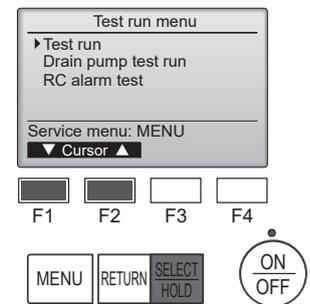

Fig. 7-2
- ② Select "Test run" from the Test run menu, and press the [SELECT/HOLD] button. (Fig. 7-2)
- ③ The test run operation starts, and the Test run operation screen is displayed.